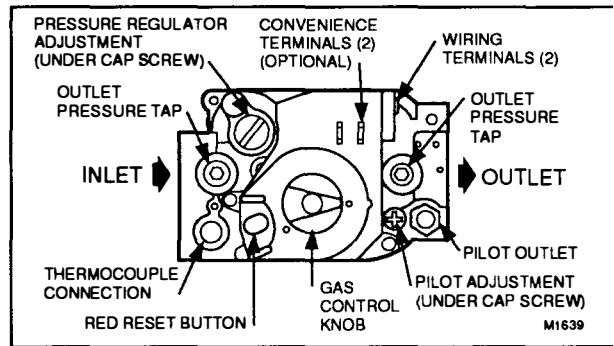

FIG. 5—TOP VIEW OF STANDARD GAS CONTROL.
6. Connect pipe to gas control inlet and outlet. Use wrench on the square ends of the gas control. If an adapter is used, place wrench on adapter rather than gas control. Refer to Figs. 5 and 6.
3. Unscrew compression fitting from the pilot outlet (Fig. 5). Slip the compression fitting over the tubing and slide out of the way.
2. Connect control circuit to gas control terminals. See Figs. 5 and 9.
1. Remove the pilot adjustment cover screw. Refer to Fig. 5.
2. With the main burner operating, check the gas control flow rate using the meter clocking method or check the gas pressure using a manometer connected to the gas control outlet pressure tap. Refer to Fig. 5.